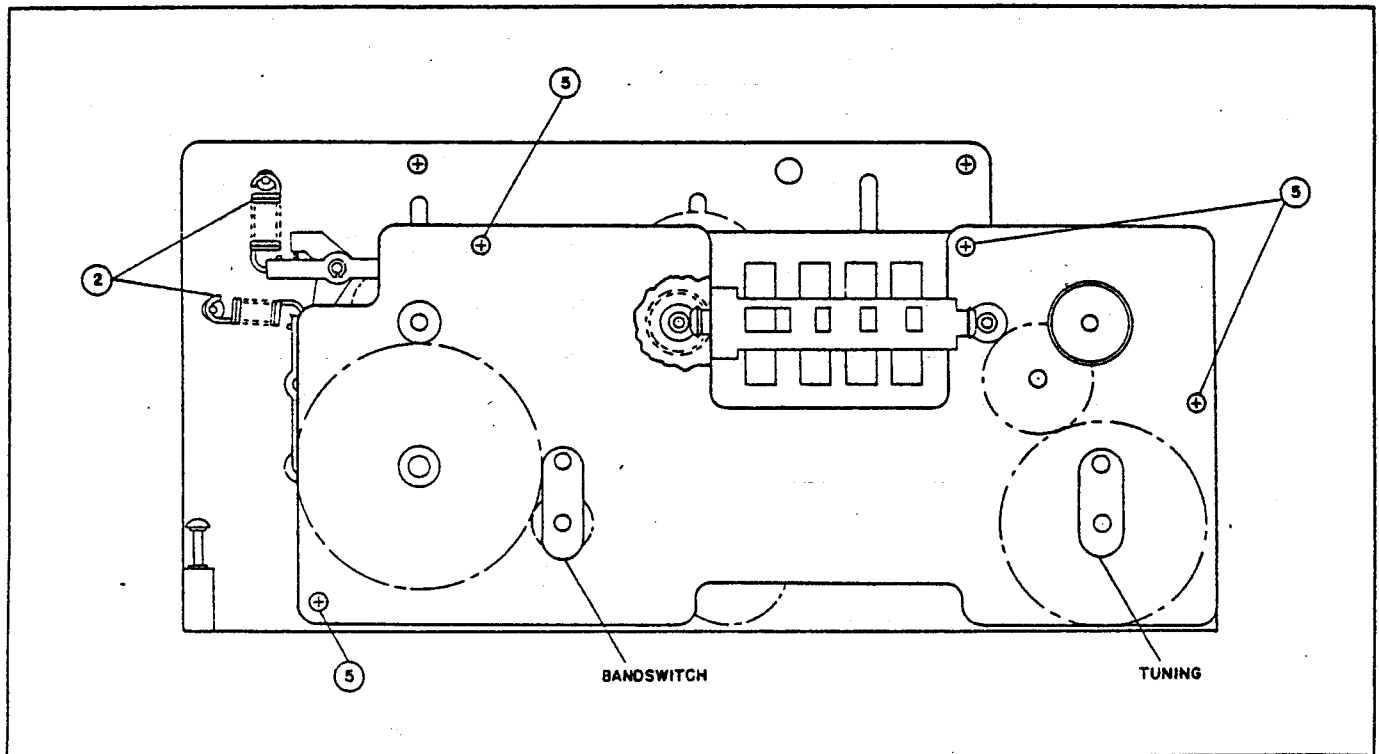

Figure 3-1. R-F and I-F Tuner Assembly, Front View
- c. Remove four screws (item 5, figure 3-1).
certain they are replaced in the exact positions from which removed, as shown in figures 3-1 through 3-5.